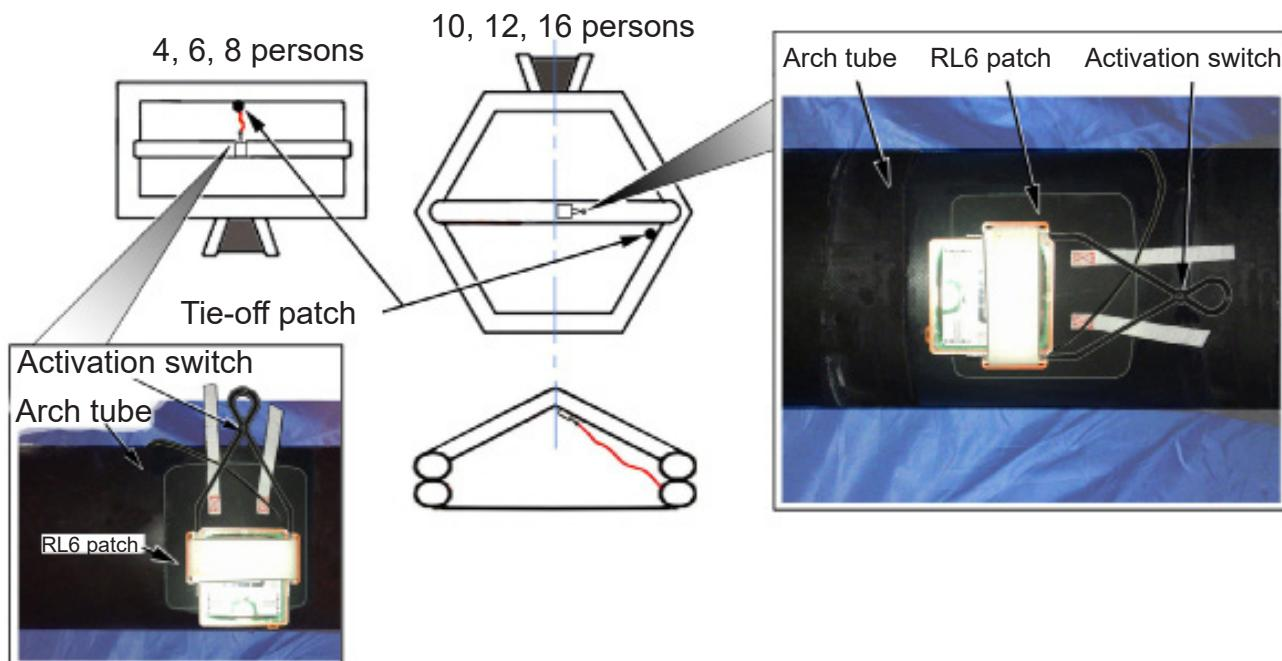

FIGURE 808I
- (a) 4 -16 Persons. Refer to FIGURE 808I:
- (i) If the RL6 internal lighting patch has been incorrectly fitted on the arch tube it will be located as shown in FIGURE 808I.
- (ii) In this instance the RL6 internal unit will need to be rotated 180 degrees. You MUST only use the wide velcro straps, to hold the internal unit in place. Refer to FIGURE 808I.